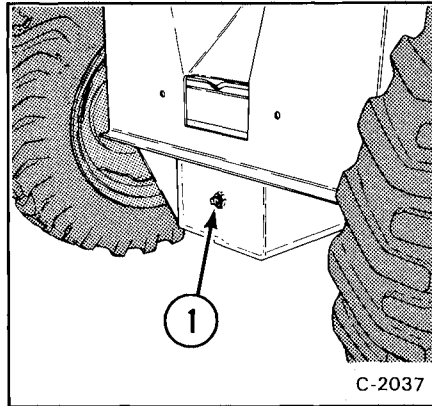

Fig. 89 Chaincase Plug
- Remove the plug at the front of the transmission housing (Fig. 89, Item 1). If oil can be reached with the tip of your finger through the hole the level is correct.